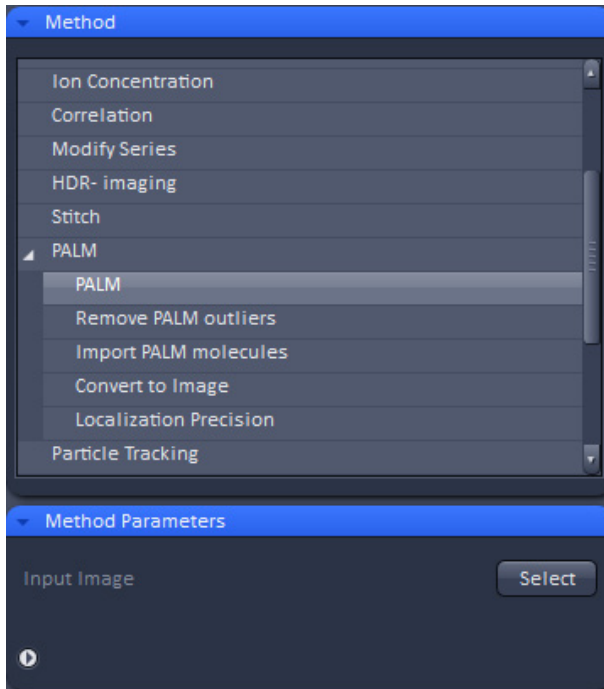

Fig. 54 Processing tab
- Click on the **Processing** tab (Fig. 54).